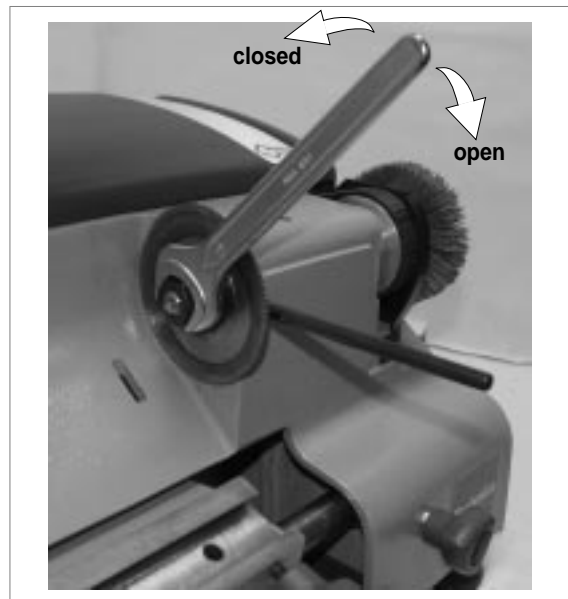

Fig. 24
- 3) Place the locking bar into the special hole in the cutter shaft (fig. 24).